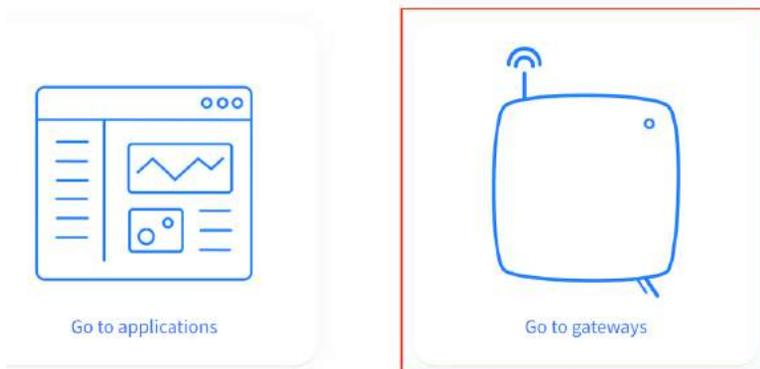

Figure 6.19 – LoRaWAN gateway registration – step 2
- After choosing the cluster, you will be redirected to the main page of the portal. From here, we will start adding the gateway, as shown in *Figure 6.19*.